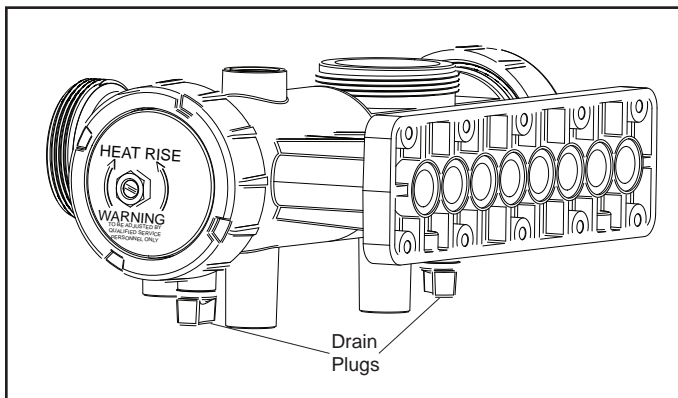

Figure 15. Header Drain Plug Location
5. Remove the drain plugs and drain the heater. See Figure 15.